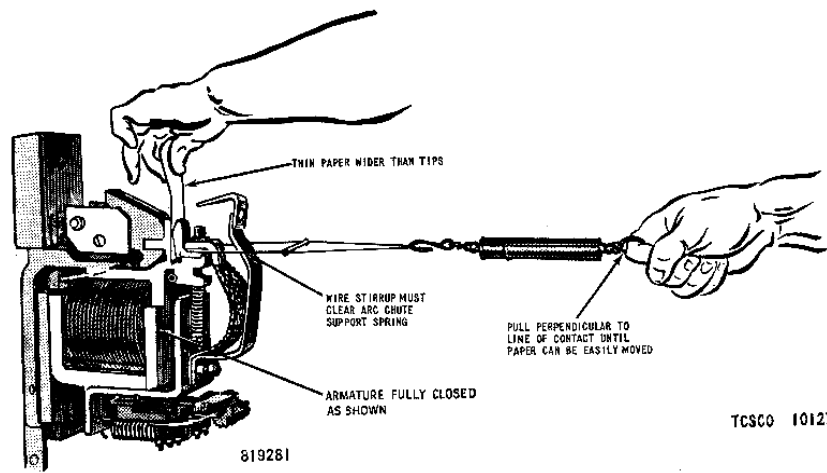

Figure 27. Measuring final contact tip pressure.
g. The contact tip pressure should be checked periodically. To do this, insert a thin piece of paper between the contacts, fully close the armature either mechanically or by energizing the operating coil, and attach a spring balance (with wire or string stirrup if necessary) to the head of the screw holding the movable contact tip. The balance should then be pulled, perpendicular to the line of contact, until the paper can be easily moved. The pull at the instant the paper can be moved is the contact tip pressure. Refer to figure 27.